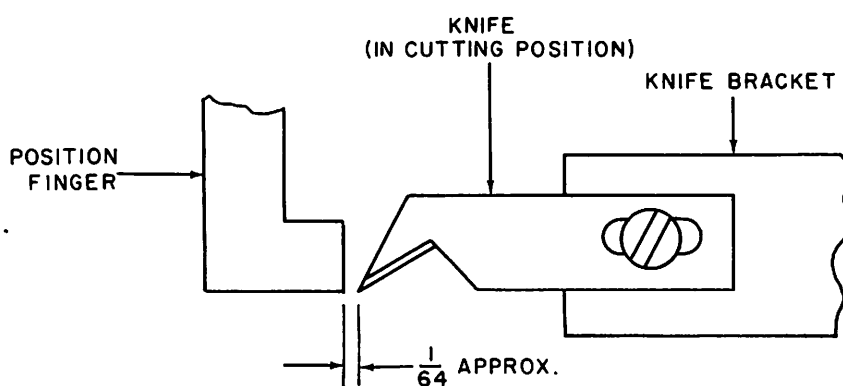

Figure 12...Setting of Trimmer Knife
## 2-8-2. SETTING OF TRIMMING KNIFE (See Figure 12)
To set the trimming knife, refer to Figure 12 and proceed as following:
- (b) Move knife manually to cutting position, loosen knife holding screw and position end of knife just beyond end of the position finger as shown in Figure 12.
- C. Knife too far to the left, cutting both legs of the needle thread. Refer to Figure 12.